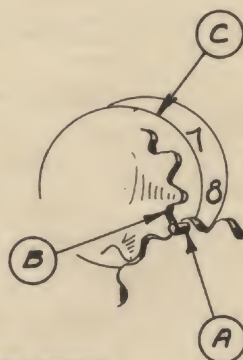

FIG. 3
- 100 THE TIMING OF THE INTERMEDIATE DIAL GEAR WITH THE REGISTERING DIAL GEAR IS AS SHOWN IN FIG. 3 - THE TOOTH WITH THE CARRYING PIN (A) MUST MESH INTO TOOTH SPACE (B) OF THE REGISTERING DIAL GEAR BETWEEN THE '8' AND '9' ON DIAL (C).